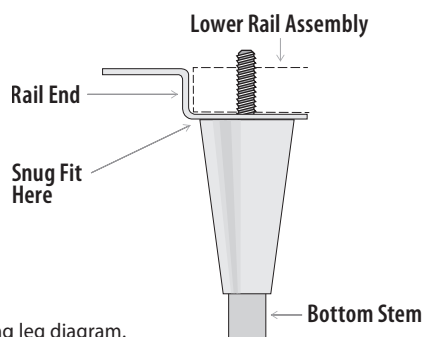

Fig. 4. Leveling leg diagram.
3. Thread the leveling legs into the frame rail or appliance bottom. See figs. 4 and 5.
5. If the appliance is not level, gently lift and support the low end of the appliance. Then, with an adjustable wrench, screw the leveling leg bottom stems in or out to level and support the appliance. See fig. 4 and 6.